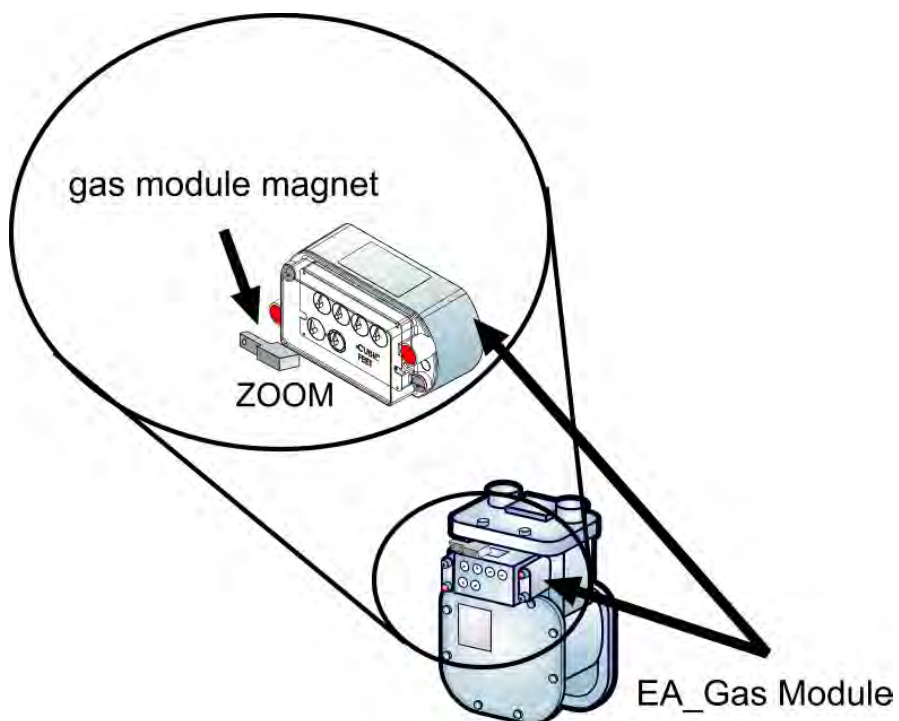

Figure 8. Holding magnet on the gas module
2. Hold a magnet on the side of the RTM for 3 seconds (see Figure 8).